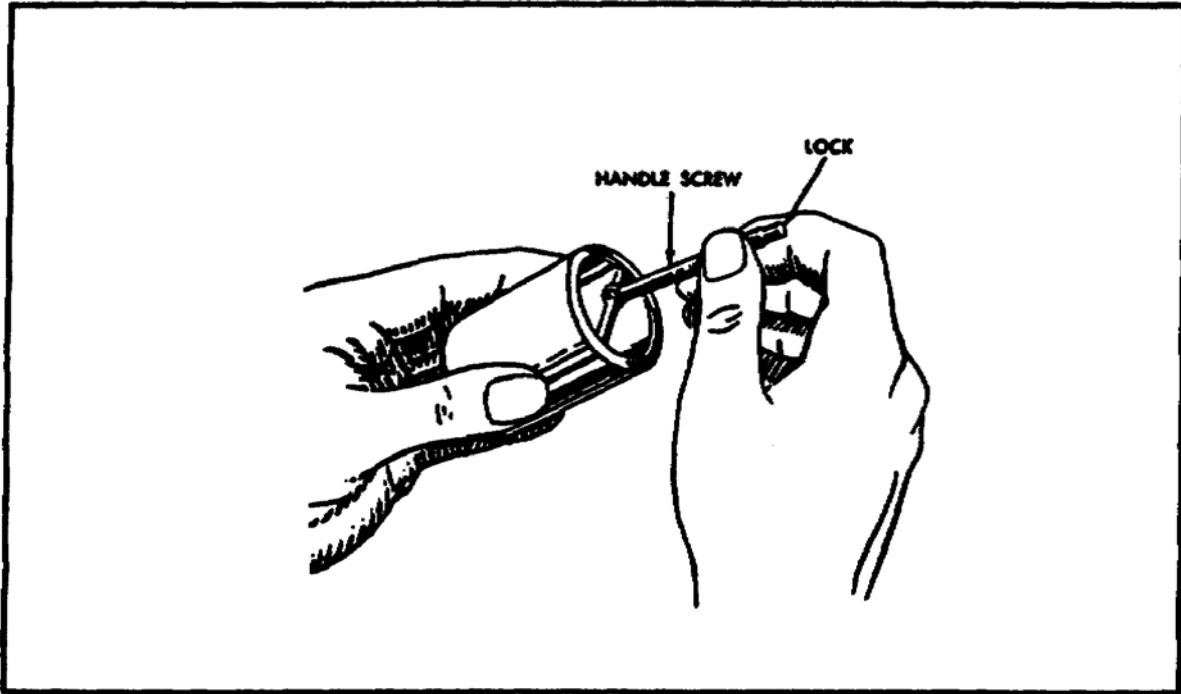

FIGURE 209. USING TELESCOPING GAGE.
(1) These gages are used when measurements cannot be taken with a standard micrometer, or for which there are no plug gages available. Telescoping gages are particularly adaptable for rough bored work and odd sizes and shapes of holes. Compress plungers and lock by turning the handle screw. Insert gage in hole; \(figure 209\) release lock; the plunger expands to exact size of the hole. Lock the plunger by turning the handle. After locking, remove the gage and check the measurement with a micrometer.